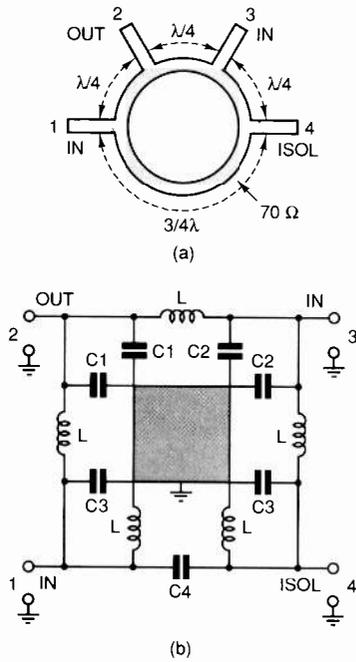

Fig. 4. Ring hybrid (a) and its lumped equivalent (b). In b, C1 and C2 can be paralleled into single units twice the value.
- 3λ/2 ring coupler (commonly known as rat-race, Fig. 4);
The hybrid ring,  $(3/2)\lambda$  hybrid or "rat race" (Fig. 4) as it is commonly called is a directional coupler that can be used to sample rf power travelling in different directions. As a result, it is also adaptable for mixer, power splitter, and combiner applications.